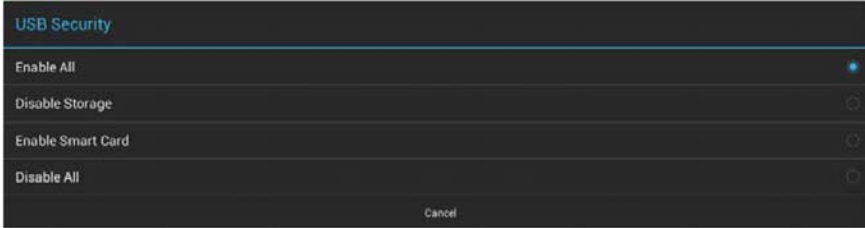

FIG. 103 USB Security Options window
1. To disable USB security options on this panel, press **USB Security** to access the USB Security Options window (FIG. 103):